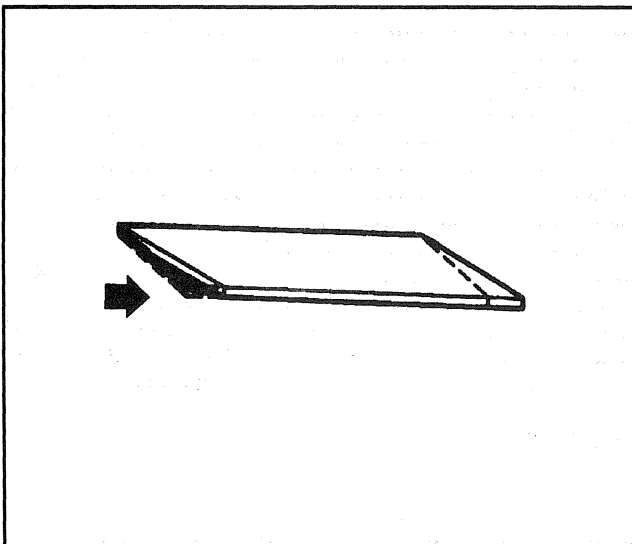

Figure 2—Diamond (Damage Condition)
5. **DIAMOND** refers to the condition where one side of the frame has been moved forward or rear causing the frame structure to be out of square (Figure 2).